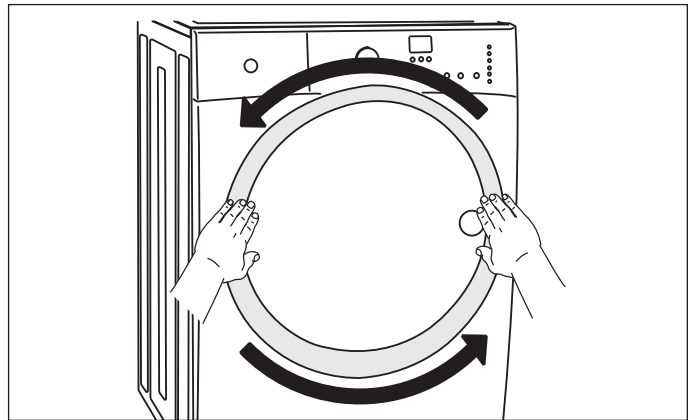

Figure 2-18.
4. Rotate the door trim approximately $\frac{3}{4}$ " counter-clock wise and pull it away from the front of the door. (See Figure 2-18)